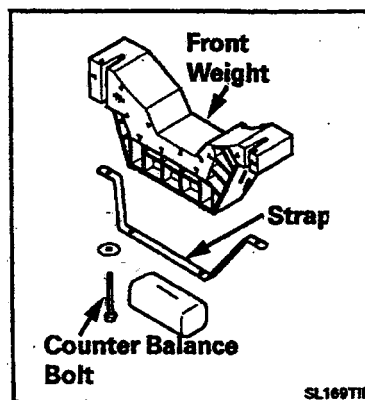

Figure 2-48
2. Remove the two bolts securing the weight to the outer tub assembly. Use a 9/16" socket (*Figure 2-48*).